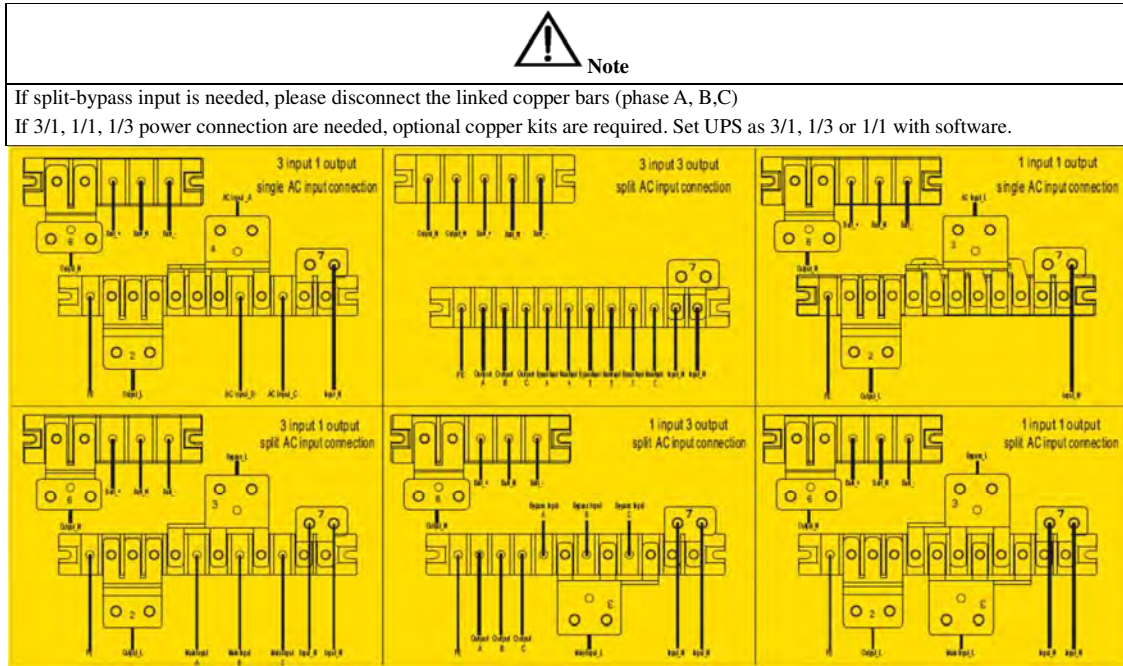
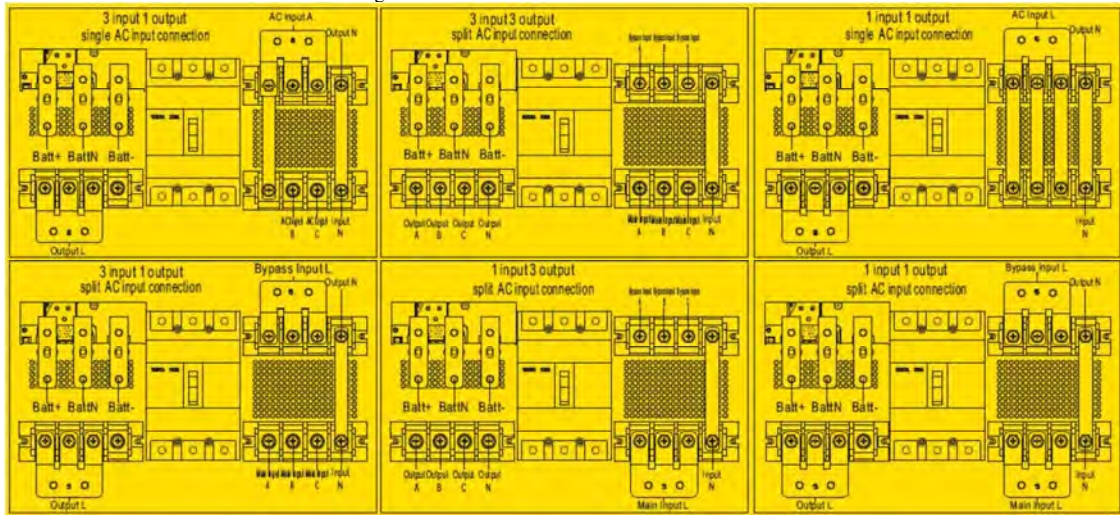

Fig. B- 1: Power Connection of 2 slots and 4 slots
Fig. B- 2: Power Cables Connection of 6 slots cabinet
Fig.B-1 and Fig.B-2 illustrate the power connection of modular UPS in what are known as the 3/3, 3/1, 1/3 and 1/1 configuration.
- **3 phases in, 3 phases out** (common input) is default setting. If need **3 phases in, 3 phases out (split bypass input)**, remove connecting copper bars between bypass and main input as Fig.B-1 and Fig.B-2.
- If need to set UPS as **3 phases in, 1 phase out**, connect cables as Fig.B-1 and Fig.B-2 as needed. Then set UPS with software as below:
- If need to set UPS as **1 phase in, 1 phase out**, connect cables as Fig.B-1 and Fig.B-2 as needed. Then set UPS with software as below:
- If need to set UPS as **1 phase in, 3 phases out (split bypass input)**, connect cables as Fig.B-1 and Fig.B-2 as needed. Then set UPS with software as below: